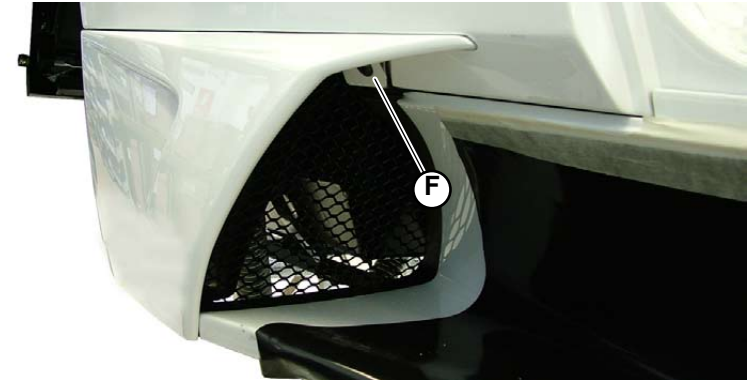

Fig.9
7. Tighten the screw (**F-Fig.9**) to secure the rear part of the side member onto the side member.